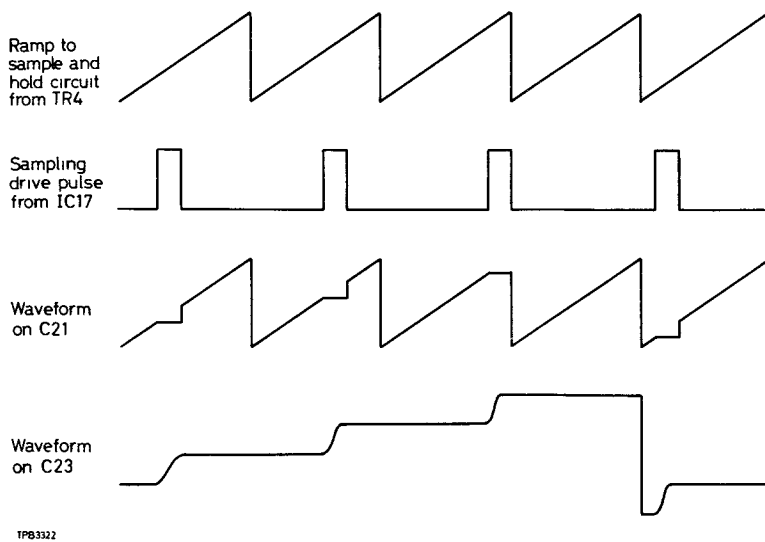

Fig. 2 Phase detector sampling and ramp waveforms
10. Sample and hold phase detector. The sample and hold gates are operated by the outputs of the driver. Driver pulses open the sample gate and close the hold gate. While the sample gate is closed C21 continuously samples the incoming ramp. A pulse from the driver opens the sample gate and the voltage on C21 is frozen. After a slight delay the hold gate closes and this frozen sample charges C23. If the ramp and drive pulses remain in phase the d.c. voltage fed to the interface amplifier remains constant. A change in signal generator frequency results in a change in ramp sample point and a resulting change in voltage as shown in Fig. 2.
Circuit diagram : Chap. 7, Fig. 2